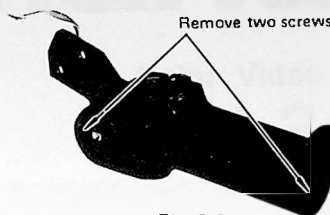

Fig. 8-4
- Remove the two screws which hold the handle grip left cover and remove the left cover. (Fig. 8-4 and 5)